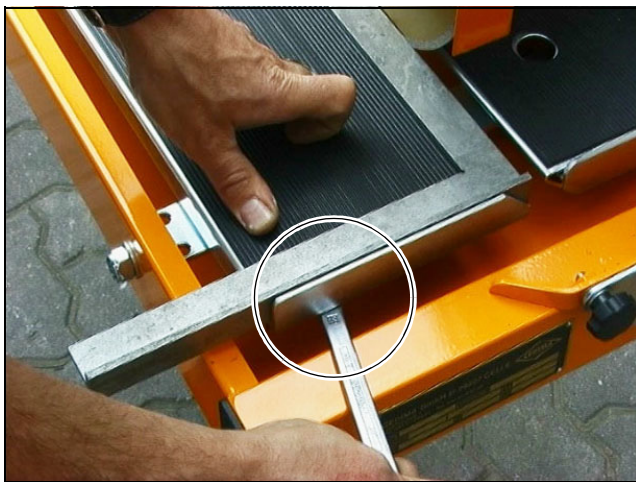

Fig. 5.18 Fastening the M 8 nuts/screws of the end stop
4. Retighten the M 8 screws and nuts (Fig. 5.18)!